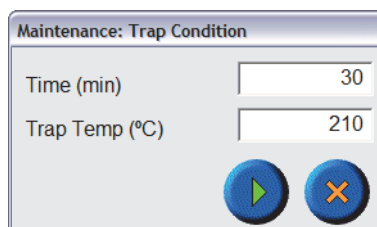

Figure 6.42. Conditioning the #10 Trap
- From the Maintenance screen, select Trap Condition and condition the trap for 30 minutes to allow the entire system to bake and remove any remaining traces of methanol (refer to Figure 6.42).